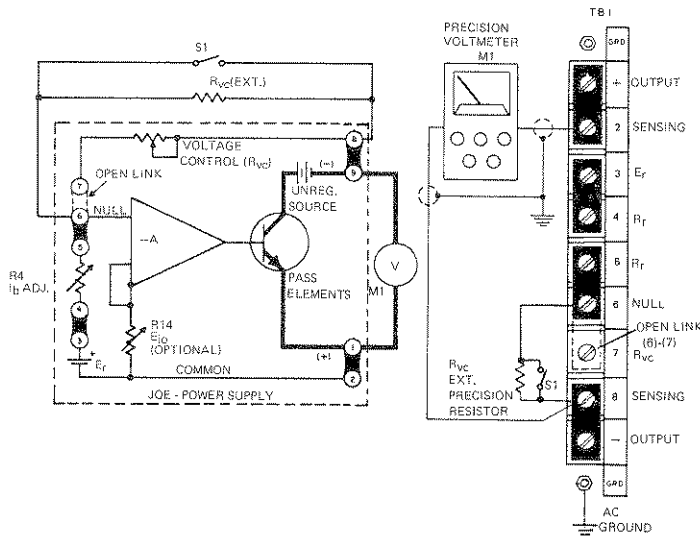

FIG. 3-5 CONNECTIONS FOR PRECISION PROGRAMMING RATIO ADJUSTMENT
### 3-16 PROCEDURE, PRECISION PROGRAMMING RATIO ADJUSTMENT (Refer to FIG. 3-5)
- b) Connect calibration set-up as shown in FIG. 3-5 and connect the JOE power supply to the AC power line.